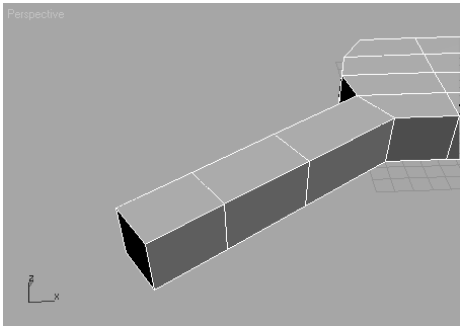

Figure 4.78
3. We are going to extrude the first finger so that it has three sections, so instead of doing one extrude, we are going to do three back to back. This will give the finger more segments with which to work. If you look at your own finger, you will notice the lower joint is the biggest joint, getting smaller toward the tip of the finger. In the Settings dialog box, set the first Amount to 60 units. The Setting dialog box allows you to interactively perform the functions, so you can see the extrude before you apply it. The 60 unit extrude looks good, so click Apply. This keeps the Settings window open. Go to the Extrusion Amount and enter **50**; this will change the extruded segment to 50 units. Click Apply again for the second extrusion. Change the Extrude Amount to 40, and press OK for the last extrusion of the index finger. Figure 4.78 shows the first finger.